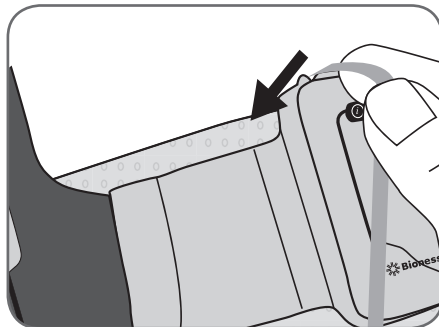

Figure 9-16: Sliding the band on the bottom silicone panel over the RF Stim Unit.
6. Slide the band on the bottom silicone panel over the Thigh RF Stim Unit. See Figure 9-16.